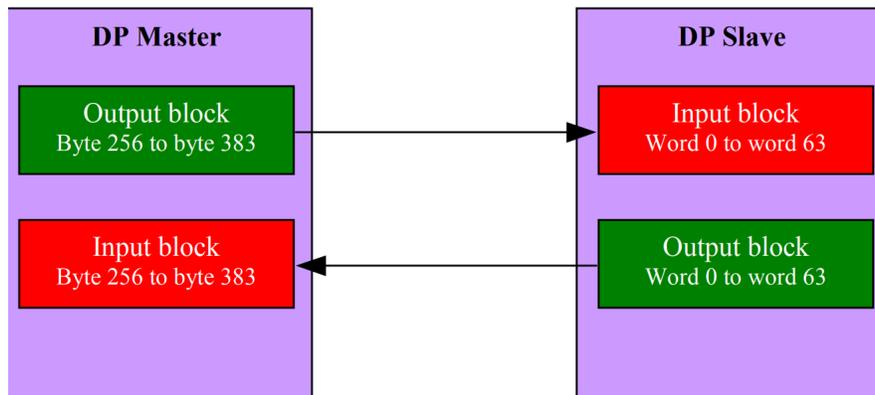

Figure 2.
Figure 2 illustrates this exchange.
2. Figure 2 has no connection with the Input Block and Output Block used in Crimson. The terminology used in the tags configuration is from the PLC point of view (i.e., DP Master). Refer to the section Crimson Setup for more information.